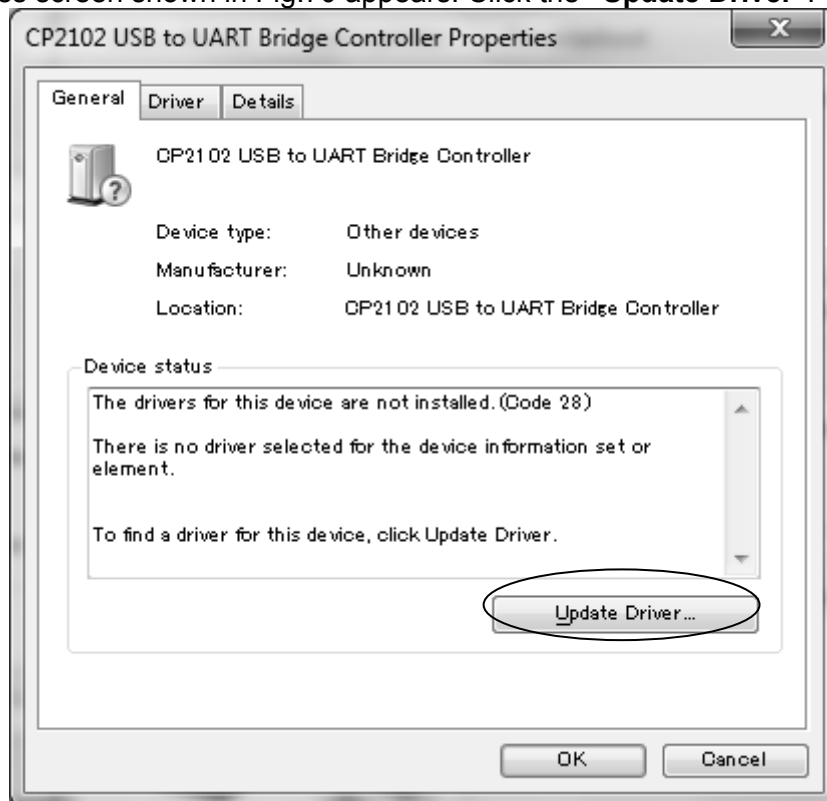

Fig. 70 Controller Properties
(20) The properties screen shown in Fig.70 appears. Click the **"Update Driver"**.